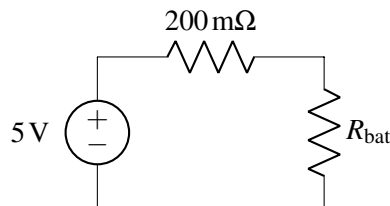

Figure 2: Model of wall plug, wire, and battery.
- (c) The battery has internal circuitry that prevents it from getting overcharged (and possibly exploding!). We will model the battery and its internal circuitry as a resistor R_{bat} . We now wish to charge the battery by plugging it into a wall plug. The wall plug can be modeled as a 5V voltage source and 200mΩ resistor, as pictured in Figure 2. What is the power dissipated across R_{bat} for $R_{\text{bat}} = 1\Omega$ (i.e. how much power is being supplied to the phone battery as it is charging) and how long will the battery take to charge?